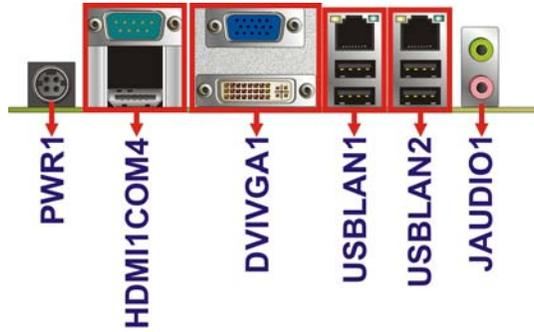

Figure 3-21: KINO-PVN-D5251/D4251 External Peripheral Interface Connector
Figure 3-21 shows the KINO-PVN-D5251/D4251 external peripheral interface connector (EPIC) panel. The KINO-PVN-D5251/D4251 EPIC panel consists of the following:
CN Location:	See Figure 3-21
- CN Location:** See **Figure 3-21**
- CN Location:** **Figure 3-21**
CN Location: See **Figure 3-21**